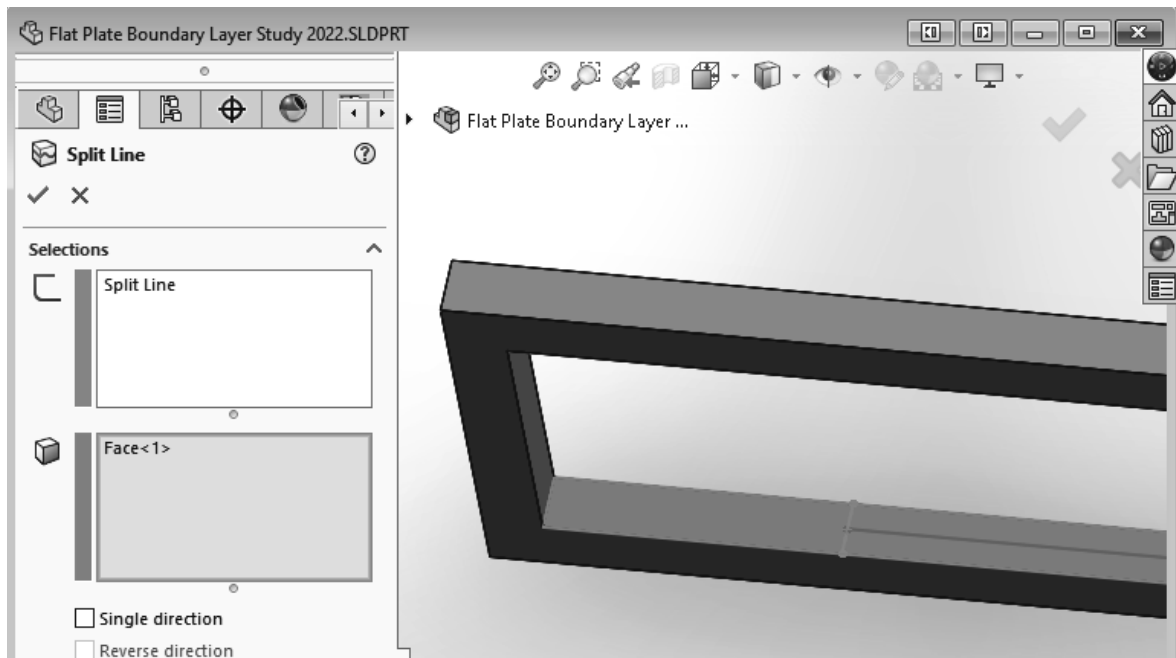

Figure 2.11b) Selection of surface for the split line
11. Rename the new sketch in the **FeatureManager design tree** and call it **Split Line**. Select **Insert>>Curve>>Split Line...** from the SOLIDWORKS menu. Select **Projection** under **Type to Split**. Select **Split Line** for **Sketch to Project** under **Selections**. For **Faces to Split**, select the surface where you have drawn your split line, see figure 2.11b). Close the dialog . You have now finished the part for the flat plate boundary layer. Select **File>>Save** from the SOLIDWORKS menu.